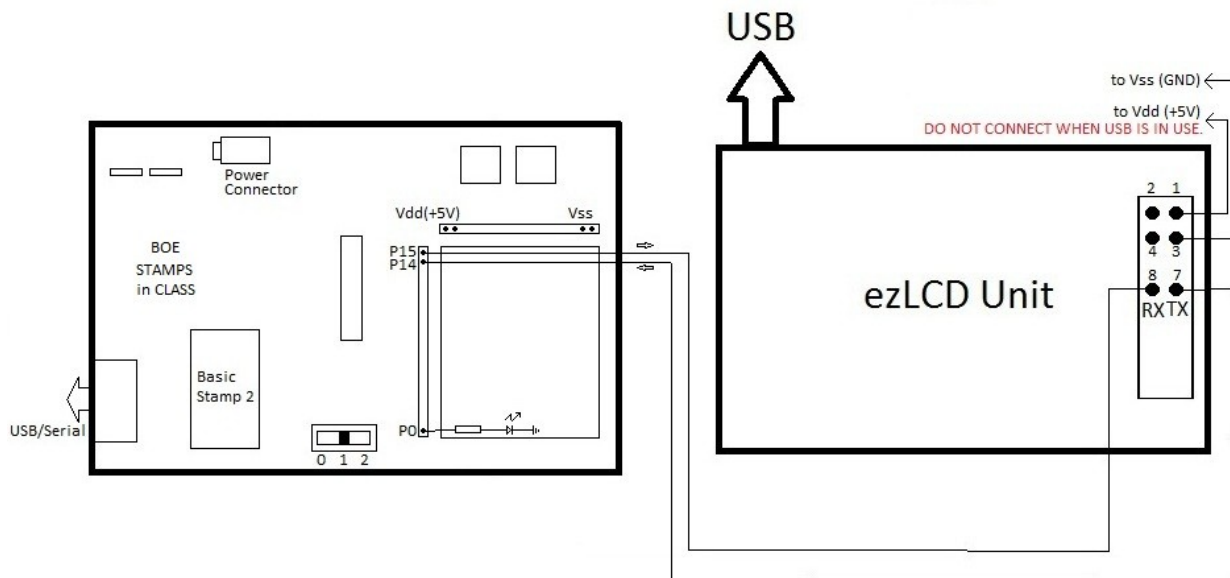

Figure 2 . Basic Stamp and the ezLCD-301 wiring connections
3.5 Disconnect power from the BOE or set the power switch on BOE to position 0. Disconnect the ezLCD-301 unit from USB port and connect the RX, TX, Vdd and GND of the BOE board to ezLCD corresponding pins. Make sure to use correct connector pin for 5V supply of the ezLCD, since it can accept 3V input too. The required connections are shown in figure 2. Make sure neither of the units have power when doing the connections. After everything is wired up, connect the supply voltage.
3.6 Power up the BOE by setting the power switch selector to position 1. The green LED should light up and the ezLCD will be initialized and will show two buttons ON and OFF on the display. Using the touch screen of the ezLCD unit you can turn ON/OFF the pin 0 of the BOE board. This pin can be connected to an LED via a resistor for visual indication as shown in figure 2.